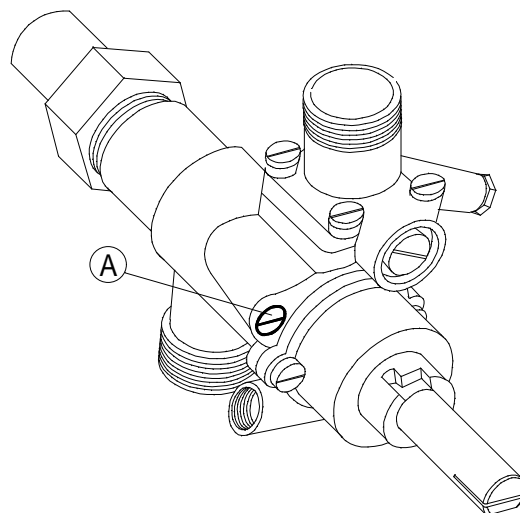

Fig. 6
- Unscrew the injector in order to regulate it to a minimum (fig. 6) and substitute it with the right type of the gas in use (see chart), retighten it again to the bottom.
- With methane gas the regulation of the heat input to the minimum comes through the screw for minimum "A" (fig. 6), according to the volumetric method (paragraph 4.2).
Gas tap (fig. 6)